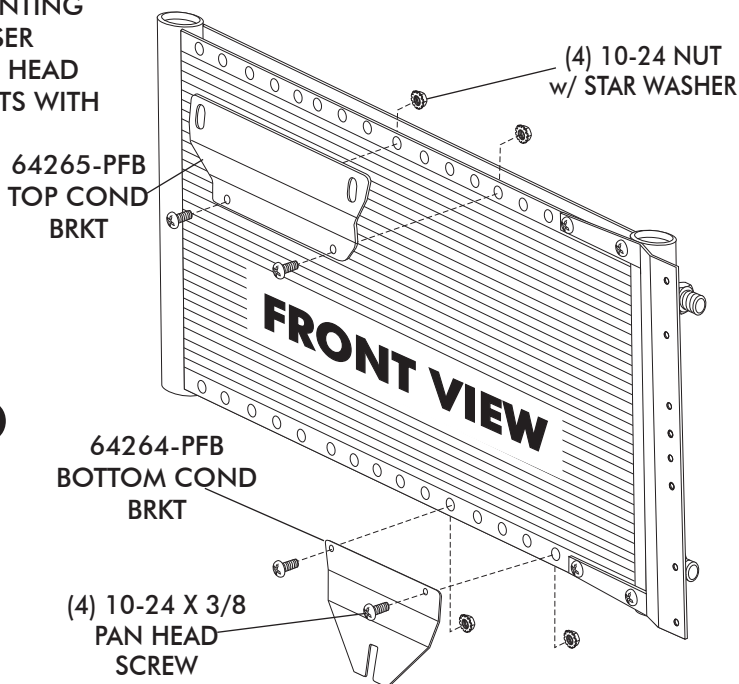

FIGURE 2
- INSTALL CONDENSER MOUNTING BRACKET ON TO CONDENSER USING (4) 10-24 X 3/8 PAN HEAD SCREWS AND (4) 10-24 NUTS WITH STAR WASHERS. SEE FIGURE 2.